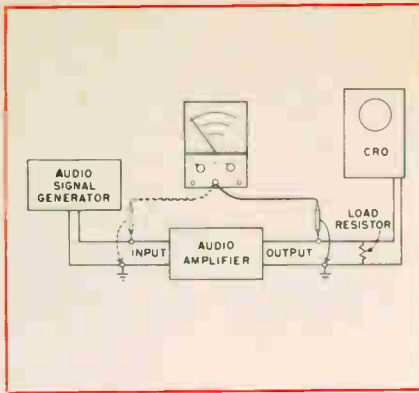

Fig. 3 — Test setup for frequency response measurements.
setup (Fig. 3) is an RCA type WV76A. An audio-frequency generator is also needed to supply the input signal.
1. Connect the equipment (as shown in Fig. 3). The ac VTVM should be connected to the input of the amplifier each time the input frequency is changed. If necessary, adjust the output control of the audio generator to provide a constant input amplitude for all frequencies.
The Scope (shown in Fig. 3) is not necessary for the frequency response check but it may reveal distortion in the output waveform.
A more convenient light-emitting diode design is shown in Fig. 3. There only the central portion of the bottom surface is changed to P-type material. Both P- and N-type material are present in the bottom surface where the electrodes can be attached without obscuring the light produced.
A large portion of the light generated at the diode junction is lost by internal reflection (Fig. 3). Gallium arsenide has an index of refraction 3.6 times that of air. This means that when light strikes the top surface of the semiconductor material at an angle that is greater than 16deg from the normal (the normal is an imaginary line perpendicular to the crystal's surface), the light is internally reflected. The reflected light is absorbed by the crystal and lost.
By shaping the top surface into a hemisphere, the amount of reflected light is reduced (Fig. 4) and the diode becomes 10 times as efficient as before with the flat top surface (Fig. 3). The standard diameter for these hemispherical crystals ranges between 36 and 72-
Fig. 3 — By forming both P- and N-type material at the bottom surface, electrodes can be attached without obscuring the light produced. Light striking the top semiconductor surface at an angle that is greater than 16deg from the normal is internally reflected and lost.